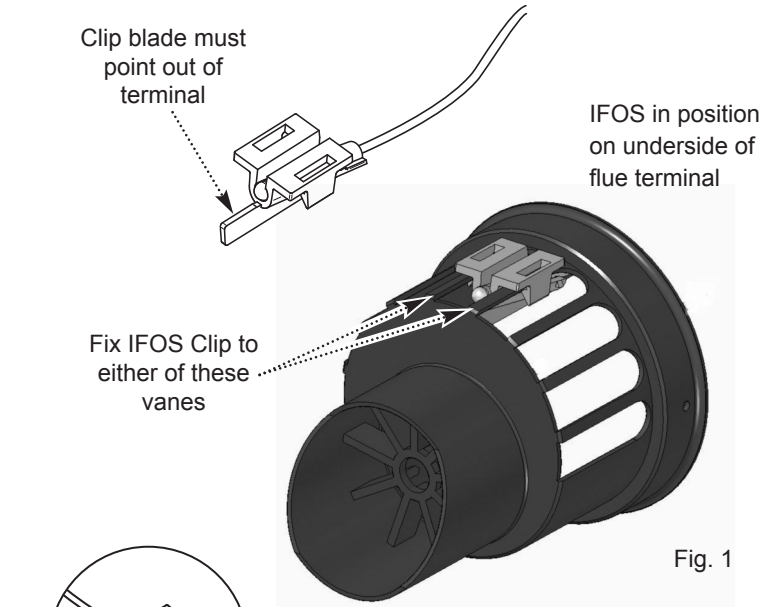

Fig. 1
1. The IFOS must be fixed in the air inlet of the boiler horizontal flue terminal at the time of installation. It MUST be positioned as shown (Fig. 1) or to the adjacent vane.
4. Insert the loose end of the IFOS cable into air inlet of the cut or adjusted flue terminal. Fix the clip to one of the vanes on the air inlet as shown (Fig. 1). Ensure that it is firmly in position.